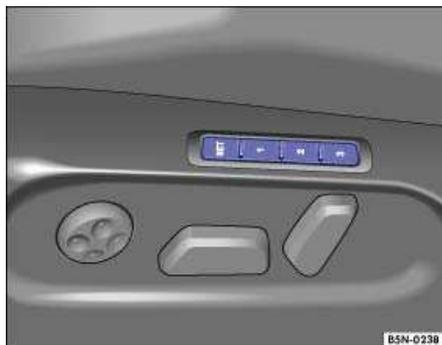

Fig. 57 Buttons on the front seat cushion used to save memory settings.
- Press the ⇒ Fig. 57 **SET** button for one second.
- In an emergency, stop automatic seat adjustment by pressing a seat adjustment switch ⇒ Fig. 57; the driver seat will come to a stop immediately.
- Press and hold one of the memory buttons ⇒ Fig. 57 **1**, **2** or **3** until the stored position is reached.